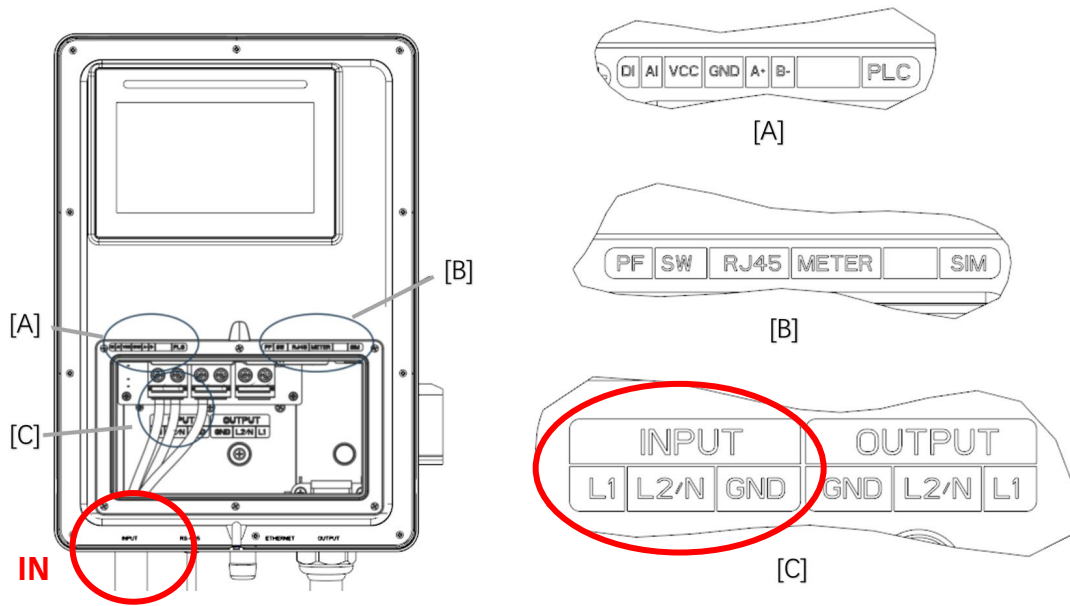

Figure 4.3 Labels Found in the Wiring Area
- 4) Insert the prepared AC input power conductors through the unused cable inlet (gland) to the bottom left of the charger (marked with “INPUT” at the bottom; also see the mark [IN] to the bottom left of **Figure 4.3**).
- 5) In the opened wiring area, connect each conductor to its corresponding input terminal according to the terminal label “L1”, “L2/N” and “GND” (see detailed diagram [C] in **Figure 4.3**).